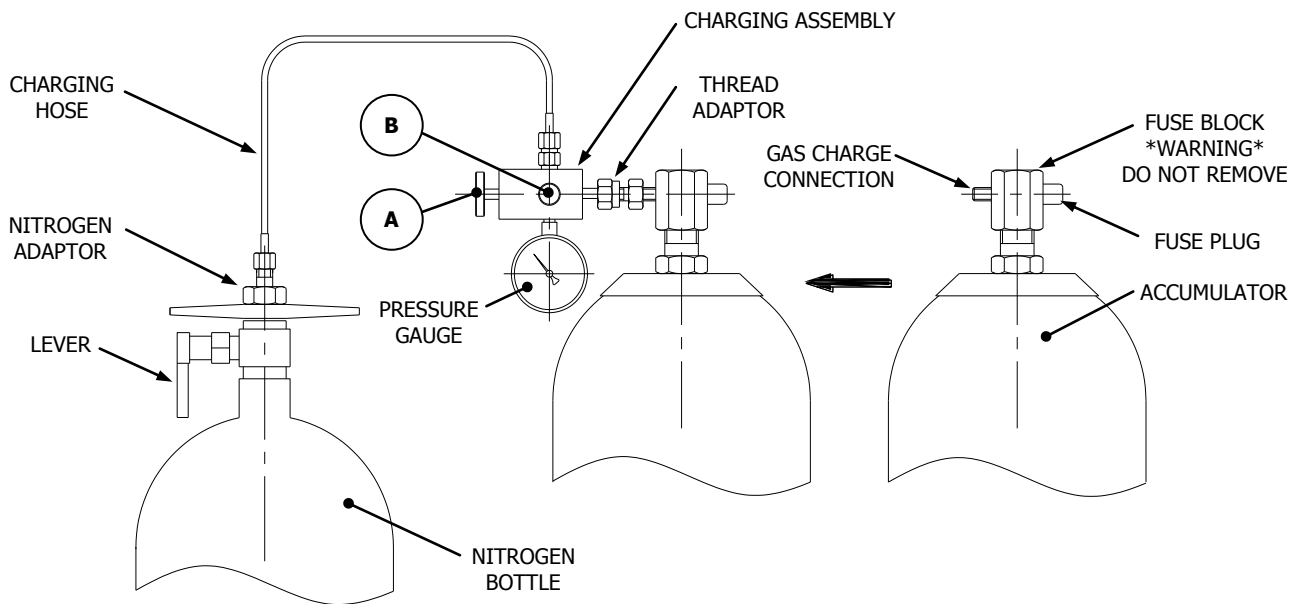

Figure 6.13 Accumulator Pre-Charge Setup
- Remove the sealing cap from the gas charge connection. Refer to figure 6.13: Accumulator Pre-Charge Setup.
- Before fitting the charging assembly ensure the hand wheel 'A' is fully retracted (counter-clockwise), bleed screw 'B' is closed and pressure gauge c/w copper sealing washer is fitted. **Note: Do not fit charging hose.** Refer to figure 6.13: Accumulator Pre-Charge Setup.